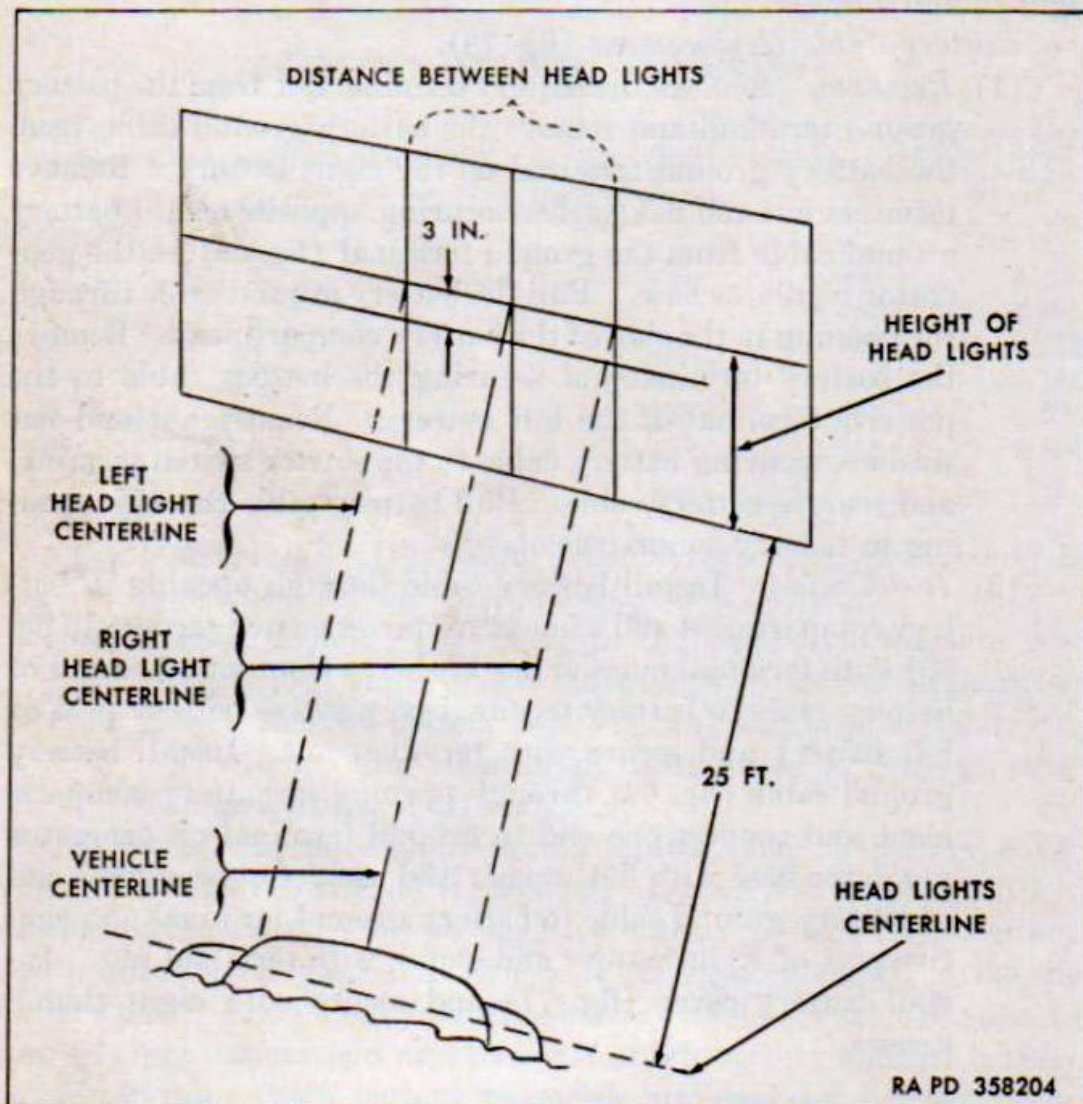

Figure 79. Headlight aiming chart.
- (2) Conventional aiming equipment should be used when aiming headlights; however, headlight beam can be accurately adjusted as follows:
- (a) Position unloaded vehicle on level floor with headlights 25 feet from a smooth vertical surface such as a wall or a door, preferably of light color. Inflate tires to proper pressure (par. 211). Vehicle centerline (fig. 79) must be perpendicular to the vertical surface and centerline of vehicle must be in line with center line of chart.
- (b) Measure height of headlight center from floor; then draw a horizontal line on vertical surface of aiming chart (fig. 79). Draw a second line parallel with and 3 inches below the first line.
- (c) Locate a point at which projected centerline of vehicle intersects these two lines. Measure distance between two headlights centers; then divide this distance equally on both side of center line. Draw a vertical line through each of these points (fig. 79).